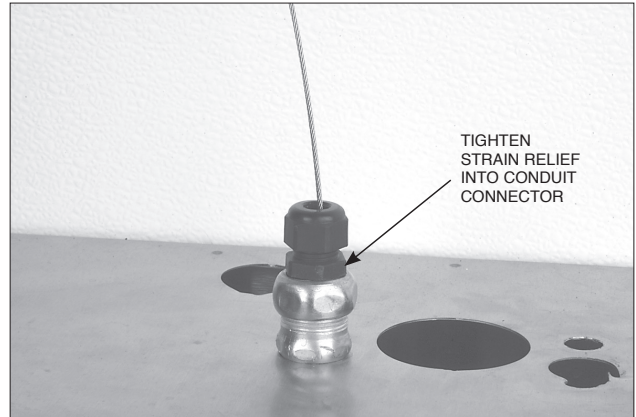

FIGURE 5-58
7. Tighten the body of the strain relief to the conduit connector. See Figure 5-58.